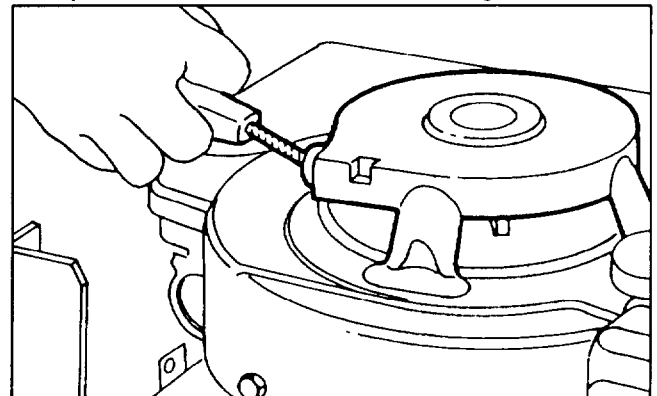

Figure 10
**Back Up Recoil Starter (Fig. 10)** – (Models 56165 & 56175 Only) Recoil starter must be used in conjunction with ignition switch. After turning ignition key to ON position, pull recoil starter handle to start engine.